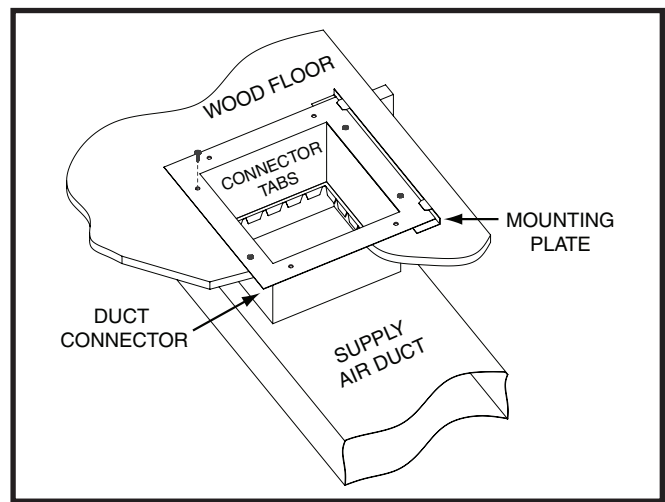

Figure 8. Standard Duct Connector Installed
Duct connectors are recommended for heated air distribution in under-the-floor duct systems. With this system, Appliances may be installed on combustible flooring without a separate sub-base. The Appliance rear mounting plate (Figure 8 (page 8)) supplied with the duct connectors is recommended for use with this type of installation.
2. Mark the cut-out area on the supply air duct by tracing around the connector tabs of the duct connector. See Figure 8 \(page 8\).
5. Install the optional mounting plate (Figure 8) under the back side of the duct connector. Align the screw holes in both components.